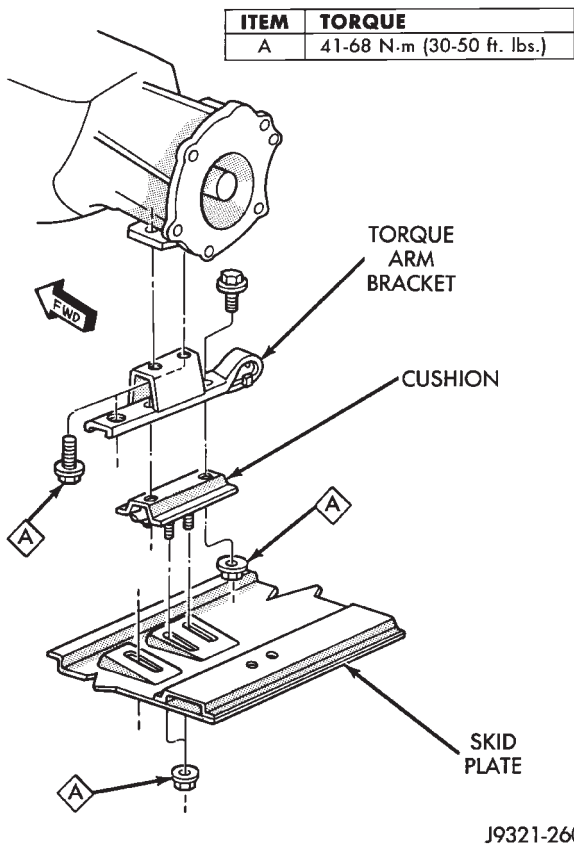

Fig. 3 Transmission Rear Mount
- (22) Support engine with support stand.
- (23) Support transmission with transmission jack. Secure transmission to jack with safety chain.
(24) Remove bolts/nuts attaching cushion and torque arm bracket to skid plate (Fig. 3).